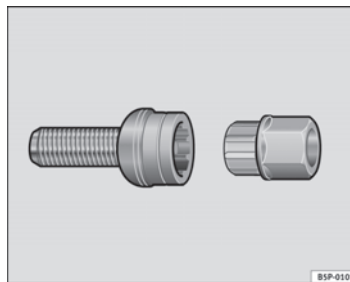

Fig. 148 Anti-theft wheel bolt
- Insert the adapter onto the wheel bolt and push it on as far as it will go ⇒ Fig. 148.